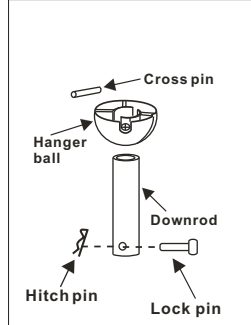

Figure 7
3. Remove the hitch pin and lock pin from the downrod assembly. Remove hanger ball from downrod assembly by loosening set screw, removing the cross pin, and sliding ball off rod. (Figure 7)